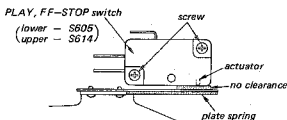

Fig. 3-6. PLAY, FF-STOP switch (S605, 614) position adjustment
1. Place the unit in the FF or REW mode, to energize the brake solenoid. Check to see that the actuator of microswitch is perfectly pushed with the plate spring and also that the no clearance between the microswitch and the plate spring is obtained as shown in Fig. 3-6. If necessary, adjust the position of the microswitch by loosening the two switch holding screws.